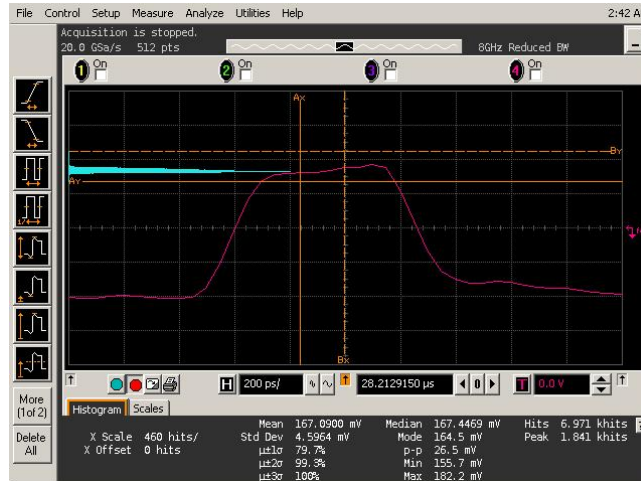

Figure B-3: Amplitude Histogram Measurement of the Lone 1 Bit
- For the **horizontal markers** (i.e., the vertical bars), we must position them at approximately the **40% and 60% UI width** points, to include only those samples in the histogram. To do this, we must roughly measure the width of the bit. Use the zero crossing points to do this, noting the width of the spacing between the zero crossings in terms of divisions. Manually position the histogram cursors at the 40% and 60% time points. When you are finished, your display should resemble the image shown in Figure B-3, below.